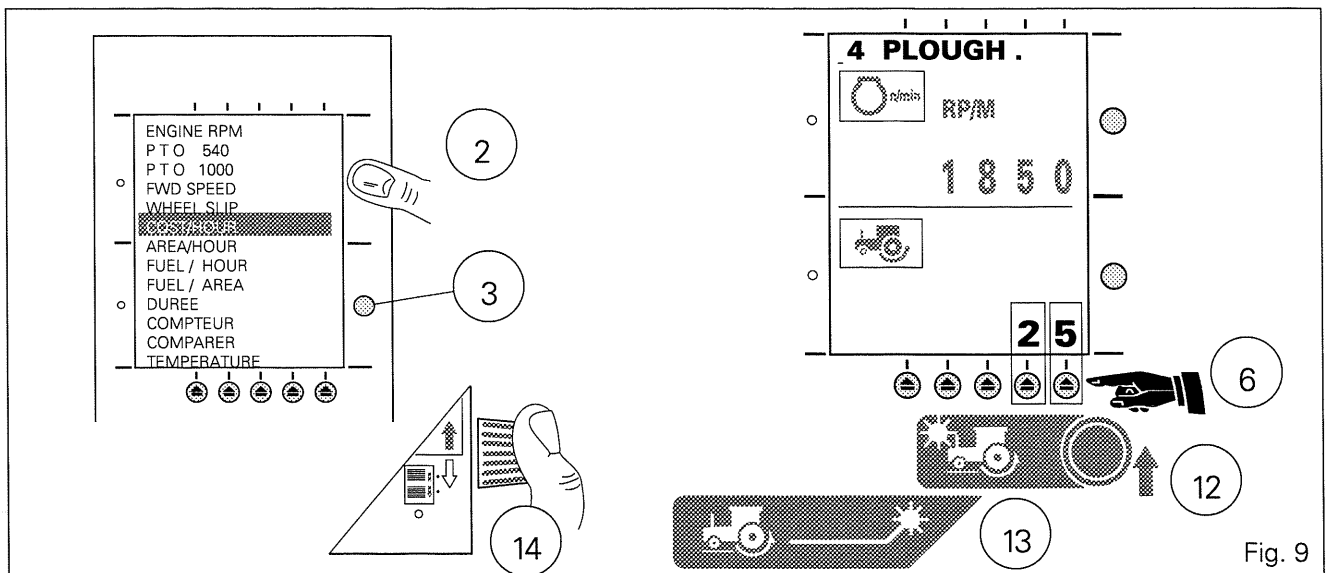

Fig. 9
**Wheel slip control (fig.9)**